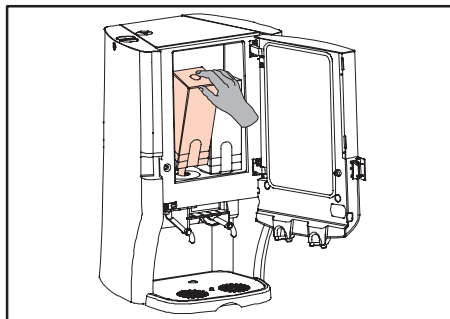

Fig. 10 Replace ingredient packs
2. Lift the empty pack out of the dispenser (fig. 10)